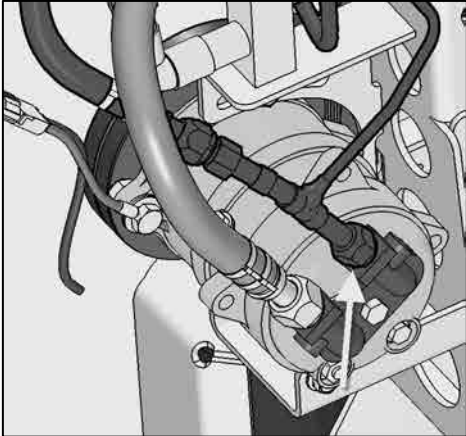
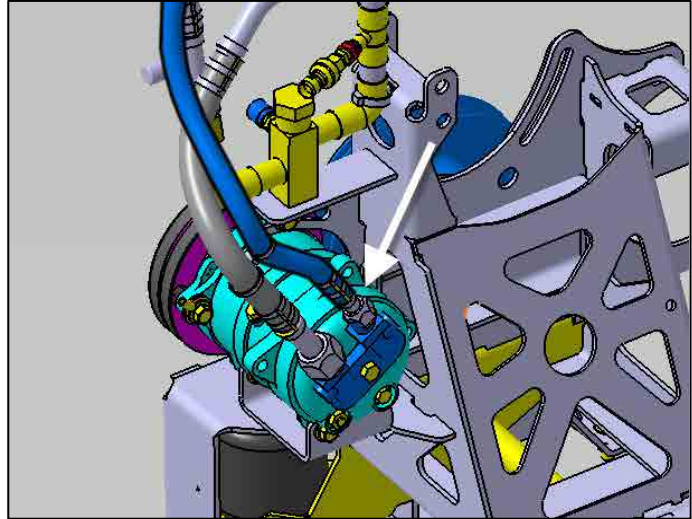

Figure 2 : Remove if installed on vehicle.
Figure 3
3. Disconnect compressor side only of high pressure hose (Fig.3) and remove former bypass piping, if installed (Fig. 2).